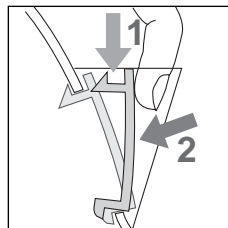

Fig. 3
- After the kettle has been rinsed out, re-fit the filter (fig. 3).
- Replace the filter (fig. 3).